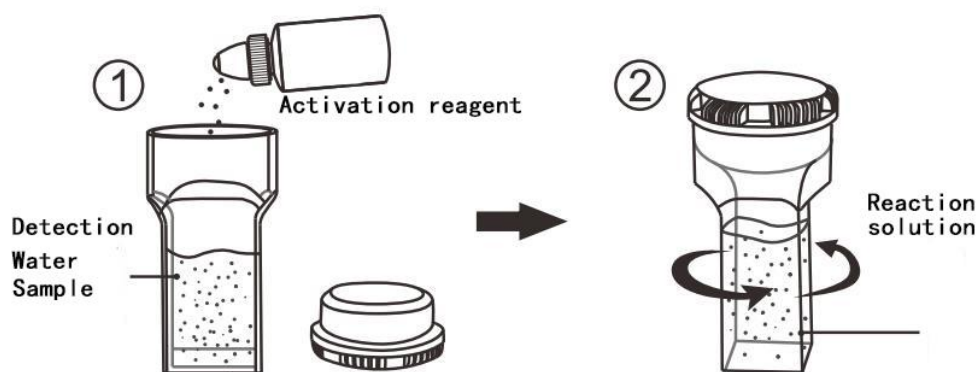
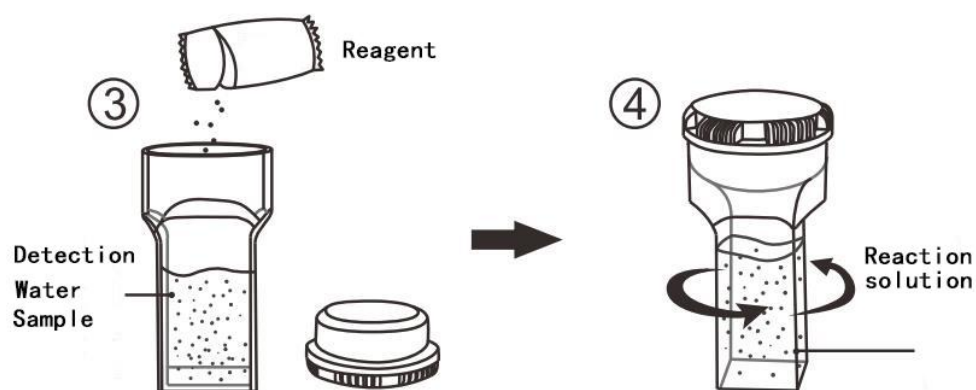

Figure 1
Figure 2
4. When the instrument displays "000", take out the colorimetric bottle and open the lid, add 2 drops of chlorine dioxide activator G1 to it, cover the lid and shake it up, add a packet of chlorine dioxide powder again, and close the lid, such as As shown in Figure 1 and Figure 2.